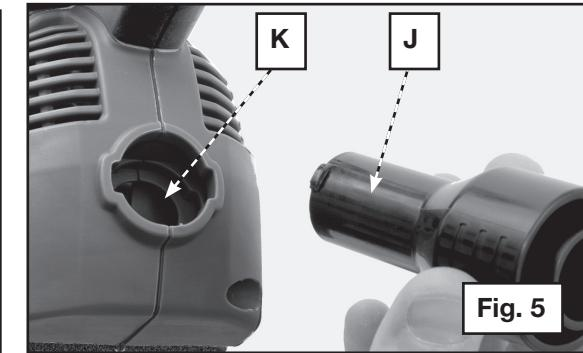

Fig. 5
Your belt sander is equipped with a dual hose adapter. The adapter can be attached to both 1" (inside diameter) and 35 mm (outside diameter) shop vacuum hoses for dust collection. Insert the adapter (J) Fig. 5 into the dust port (K) and turn it 1/8 turn clockwise to secure the adapter to the sander. Then, attach the appropriate vacuum hose to the adapter.